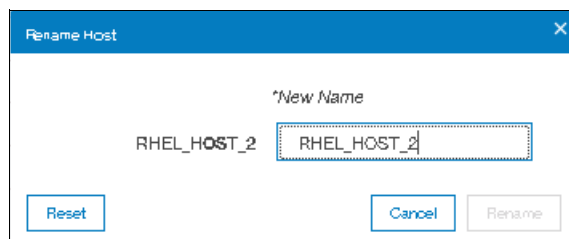

Figure 8-18 Rename a host window
3. A window will open where you can enter the new name as shown in Figure 8-18.